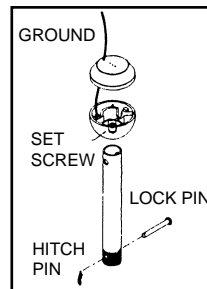

Fig.7
Step 3. Remove downrod hanger ball by loosening set screw, removing the cross pin, and sliding ball off rod. Remove the hitch pin and lock pin. (Fig. 7)